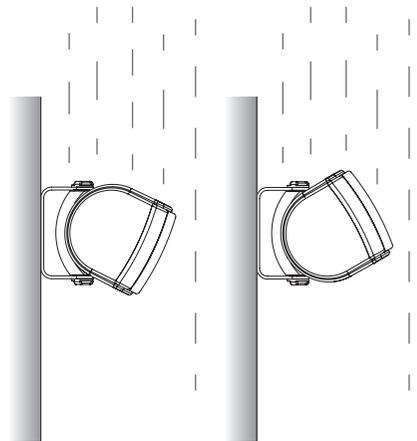

Figure 1. Qi 45EW installation orientation when exposed to rain.
- The Qi 45EW should NOT be positioned where water or rain will be driven directly into the grille (Figure 1). The speaker should always be mounted such that water will naturally drain away from the grille. For IPX4 protection in wet environments, the rubber ports plugs must be fitted.